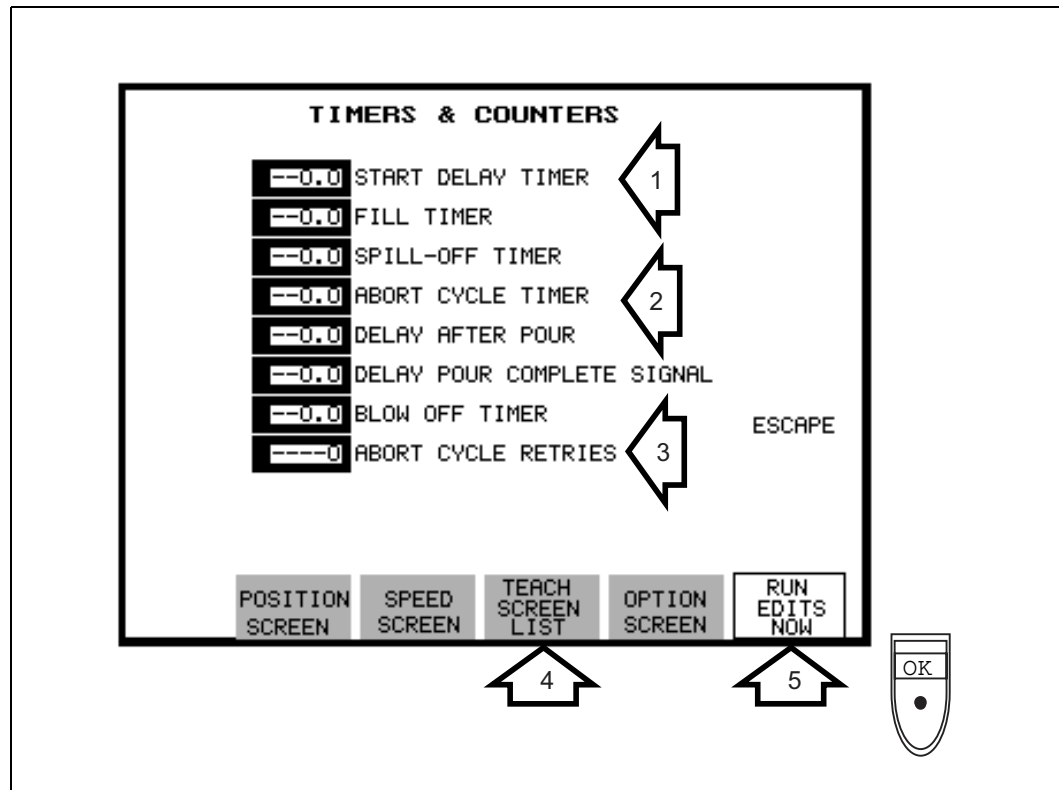

Figure 7-25: Timers & Counters Screen
14. Press the **TIMER SCREEN** key (#6 on Figure 7-5). The Timers & Counters Screen will display (Figure 7-25).
15. Use the arrow keys to move to the fields to be modified. In general, these times can be set at 10 seconds or less except for the ABORT CYCLE TIMER (#2 on Figure 7-25) and the START DELAY TIMER (#1). The ABORT CYCLE TIMER should be set for the maximum time the ladle is to wait with the shot at the pour hole. In general, this time is set between 20–50 seconds. The START DELAY TIMER is used to fine tune the cycle so that the ladle reaches the DCM just before it is ready to accept it. After setting all timers, highlight the ABORT CYCLE RETRIES (#3) and enter the setting for the number of abort retries the ladle will make before reverting to Manual Mode.